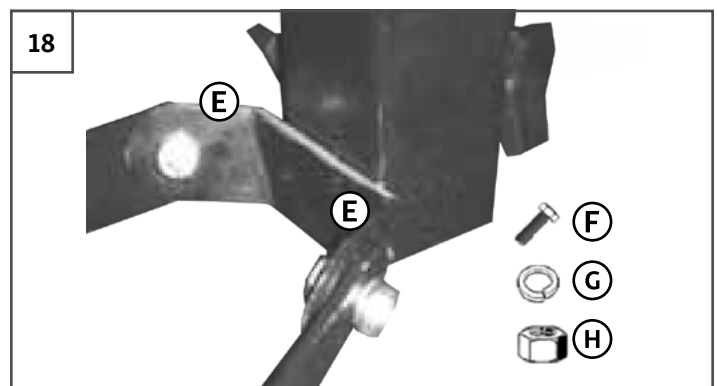

FIGURE 18: DIAGONAL BRACE INSTALLATION
1. Attach the straight end of each diagonal brace to the **TABS (E)** at the lower end of the boom mount support leg. Secure it with two 1/4" x 1/2" **BOLTS (F)**, two **LOCK WASHERS (G)** and two **HEX NUTS (H)**. See Figure 18.